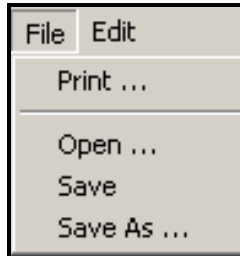

Figure 47. Util | Convert Report Dialog | Format Dialog | File Menu
The **File** menu on the **Format** dialog has four (4) selections shown in Figure 47, which are discussed below.